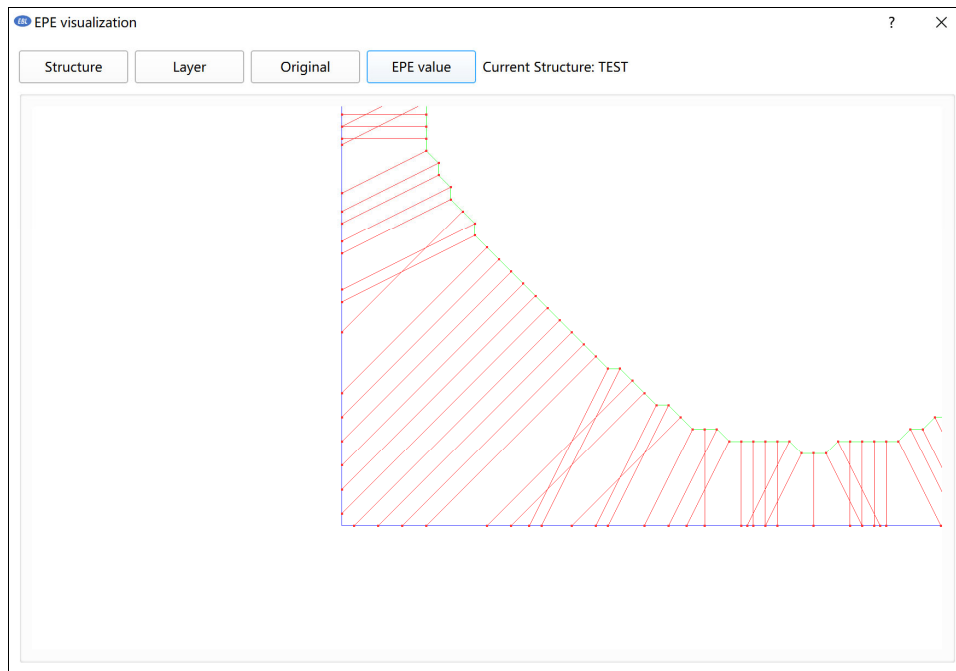

Figure 2.7.8 Partial zoom
- 12) In the image display area, you can slide the mouse wheel to zoom in and out the image. You can hold down the left mouse button to drag the image and click the right-click of mouse to select a part of the image to partially zoom. You can click "Original" to return the image to the original position. (Figure 2.7.8)